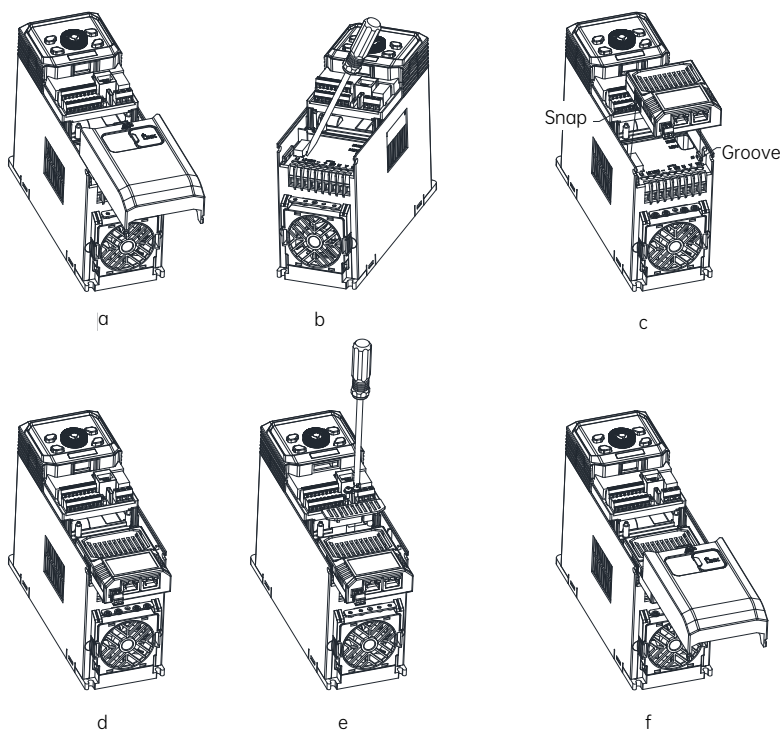

Fig. 2-4 Position 2 - Communication option, PLC/IO option installation steps
- (1) When the drive is powered off, press the granulated part on the middle-upper of the lower cover, slide it down firmly to take down the cover, as shown in Fig. 2-4 a.
- (2) Use a straight screwdriver to pry open the dustproof cap, as shown in Fig. 2-4 b.
- (3) Install the PN option: hold the expansion box (an option inside) upwards (indicators up), then align the expansion box with the electrical bus interface of position 2, and press down horizontally to buckle the spring snap of the expansion box into the groove at the lower part of the drive, as shown in Fig. 2-4 c and Fig. 2-4 d. Then, use the included retaining plate to secure the option and tighten it with screws (for enclosure B only), as shown in Fig. 2-4 e.
- (4) The bus card is successfully installed, as shown in Fig. 2-4 f.